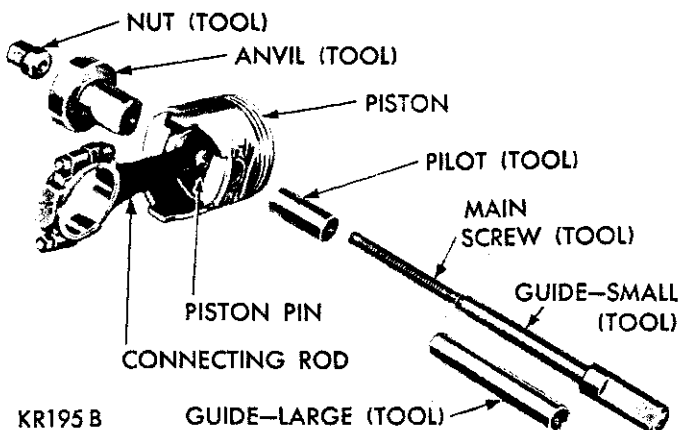
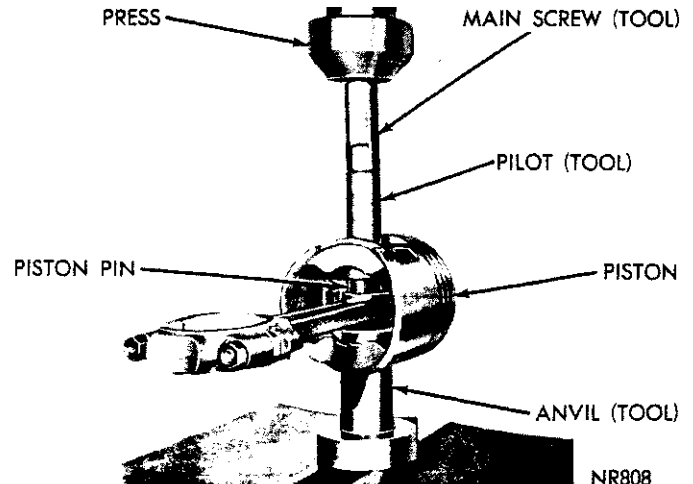

Fig. 35—Tool Arrangement for Removing Piston Pin
Fig. 36—Removing Piston Pin
(1) Arrange Tool C-3724 parts for removal of piston pin (Fig. 35).
(2) Install pilot on main screw.
(3) Install screw through piston pin.
(4) Install anvil over threaded end of main screw with small end of anvil against piston boss. **Be sure spring is removed from anvil.**
(5) Install nut loosely on main screw and place assembly on the press (Fig. 36). Press piston pin out of connecting rod.
(10) Press piston pin in the piston until pin bottoms on pilot, properly positioning pin in connecting rod.
(11) Remove tool and arrange tool parts and piston assembly in the same manner, as shown in Figure 35 for measuring pin fit.